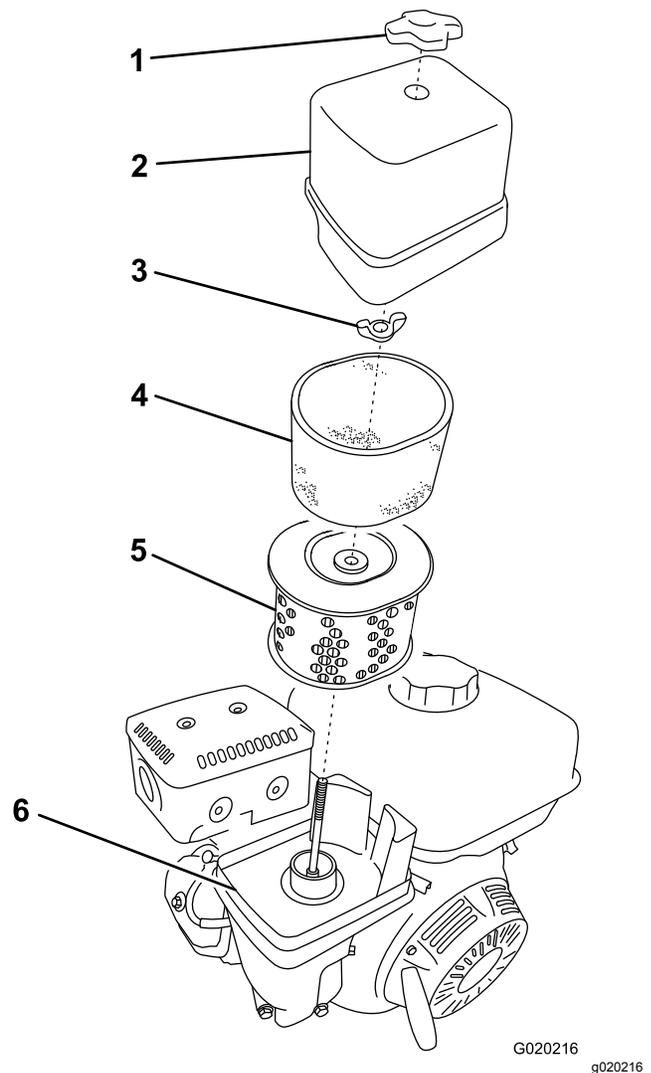

Figure 50
3. Remove the nut that secures the cover (Figure 50).
5. Remove the foam and paper elements from the base (Figure 50).
6. Remove the foam element from the paper element (Figure 50).